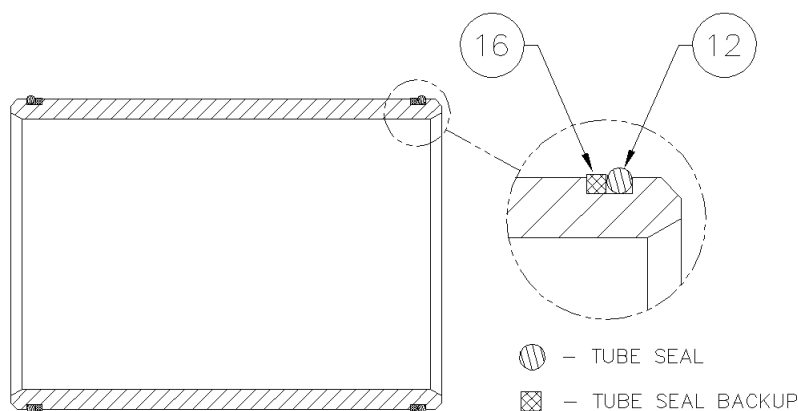
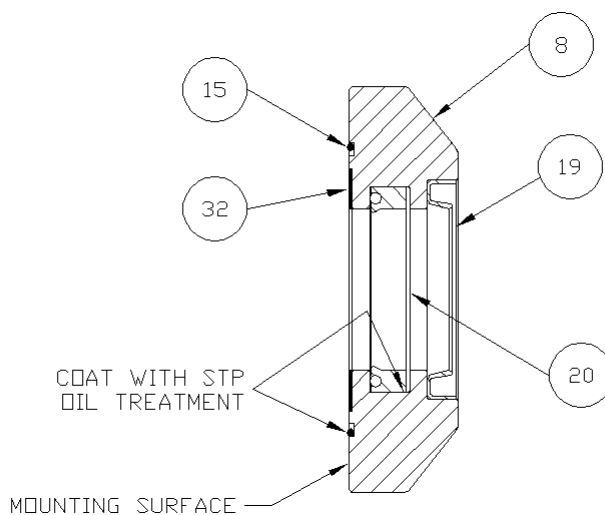
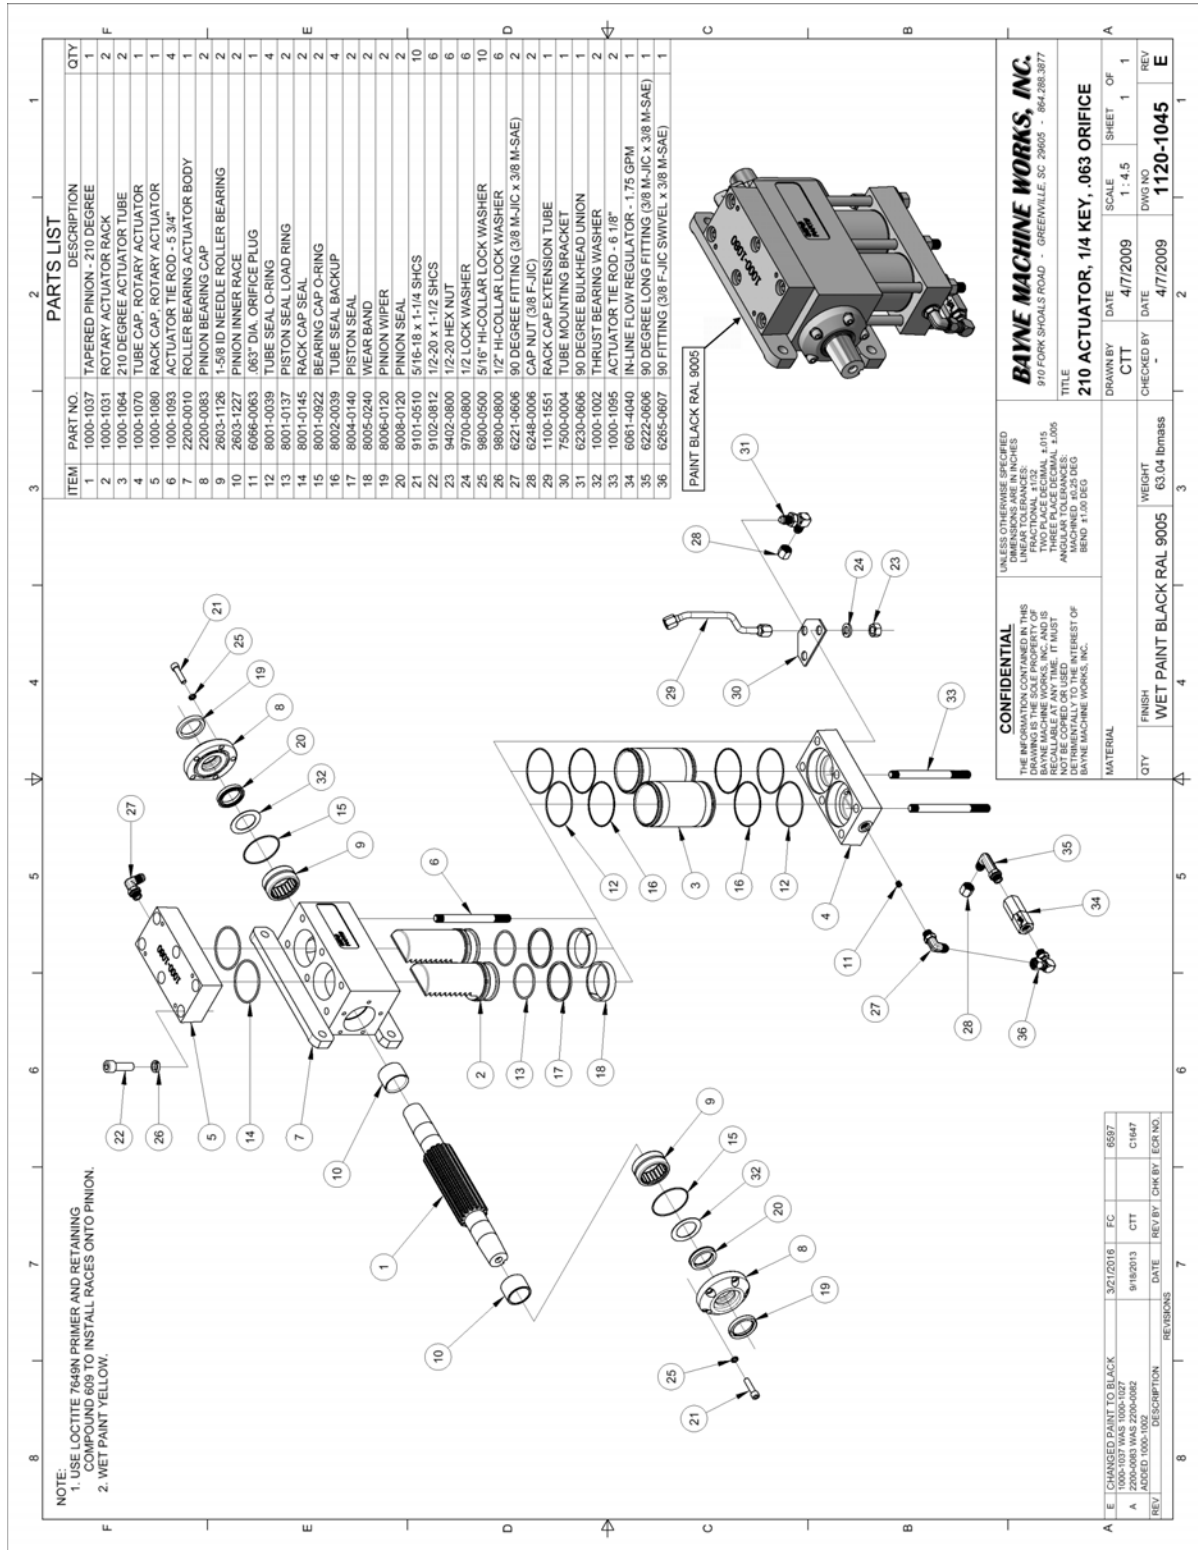

Figure 10.
Figure 19.
Figure 21.
2. Install the tube seal (12) (Figure 10) and "square" tube seal backup (16) on each end of the actuator tubes (3) (Figure 21). Be sure that the "square" tube seal backup ring is toward the inside of the tubes at both ends as shown. Press all rings firmly into the grooves. Repeat this procedure for the other tube.
7. Coat one end of the actuator tubes (3) (Figure 21) around the seal area with STP Oil Treatment as shown in Figure 15. Using a rubber mallet, drive the coated end of the tube onto the exposed rack until the tube end seats in the actuator body, making sure that the seals remain in place as the tube enters the counter-bore. Repeat this procedure for the other side.
8. Install the four tie rod studs (6) and two tie rod studs (33) (Figure 21) by screwing the short threaded end into the actuator body. Hand tighten only at this time (the torque needed will be applied later in the procedure).
9. Place the tube cap (4) (Figure 21) on the table. Coat the sides of the two bores in the tube cap with STP Oil Treatment. Install the cap over the tubes and rod studs with the oil port positioned to the left as shown in Figure 21. Using a rubber mallet, tap the tube cap over the tubes until the tubes seat in the cap, making sure that the seals remain in place.
10. Place the tube mounting bracket (30) (Figure 21) over the two end rod studs opposite the oil port in the tube cap as shown in Figure 21.
11. Install the hex nuts (23) (Figure 21) and lock washers (24) on the tie rod studs. Torque the nuts to 50 ft-lb. in the sequence shown in Figure 16.
12. Place the rack cap (5) (Figure 21) bore side up on the table and coat the edge of each bore with STP Oil Treatment. Install the rack cap seals (14) (Figure 17) in the rack cap.
13. Reposition the actuator on the table mounting flanges down, and the lower tubes facing away from the assembler. Rotate the pinion shaft to allow 1" of the rack to protrude from the top of the actuator body. Install the rack cap with the oil port positioned to the left hand side of the actuator opposite the bottom oil port located in the tube cap as shown in Figure 21. Attach the rack cap to the actuator body using the socket head bolts (22) (Figure 21) and lock washers (26). Torque the bolts to 90 ft-lb. in the sequence shown in Figure 18.
15. Re-center the actuator pinion in the actuator body by tapping on one end of the shaft with a rubber mallet. Install the roller bearing (9) (Figure 21), over the pinion shaft and inner race, and into the actuator body. Repeat this procedure for the other bearing.
16. Thoroughly clean the bearing caps (8) (Figure 21) with a mild solvent and lubricate all seal grooves with STP oil treatment. Place the bearing caps (8) on the table (mounting surface down) and install the wiper ring (19) in the outside groove using a rubber mallet or small press. **(Avoid using tools that may damage seals or scratch bearing cap or bearing surfaces.)** Turn the bearing cap (8) over. Collapse the pinion seal (20) and carefully work it into the groove. Use fingers to carefully press the seal completely into the groove as shown in Figure 19. **Be careful not to score or scratch the sealing surface during the installation.** Install the bearing cap seal (15) and thrust washer (32) into their respective grooves on the bearing cap mounting surface as shown in Figure 19.
17. Coat the bearing cap seal area and pinion seal area shown in Figure 19 lightly with STP Oil Treatment.
20. Install the 90° fitting (27) (Figure 21) into the oil port on the side of the rack cap (5). Hand tighten only at this time.
21. Install the 90° bulk-head fitting (31) (Figure 21) up through the hole in the tube mounting bracket (30) bolted to the tube cap as shown in Figure 21. The 90° end must be pointing back toward the mounting flanges on the actuator body. Hand tighten only at this time.
22. Install the rack cap extension tube assembly (29) (Figure 21) between the fitting in the rack cap and the bulk-head in the tube mounting bracket as shown in Figure 21. Tighten all connections.
23. Install the orifice plug (11) (Figure 21) into the oil port on the side of the tube cap (4), and install the 90° fitting (27) into the oil port over the orifice plug as shown in Figure 21. Install the flow regulator (34) and necessary fittings (35) and (36) as shown and tighten.
24. Install the cap nuts (28) (Figure 21) onto the open fittings to prevent contamination of the unit until the hoses are installed.